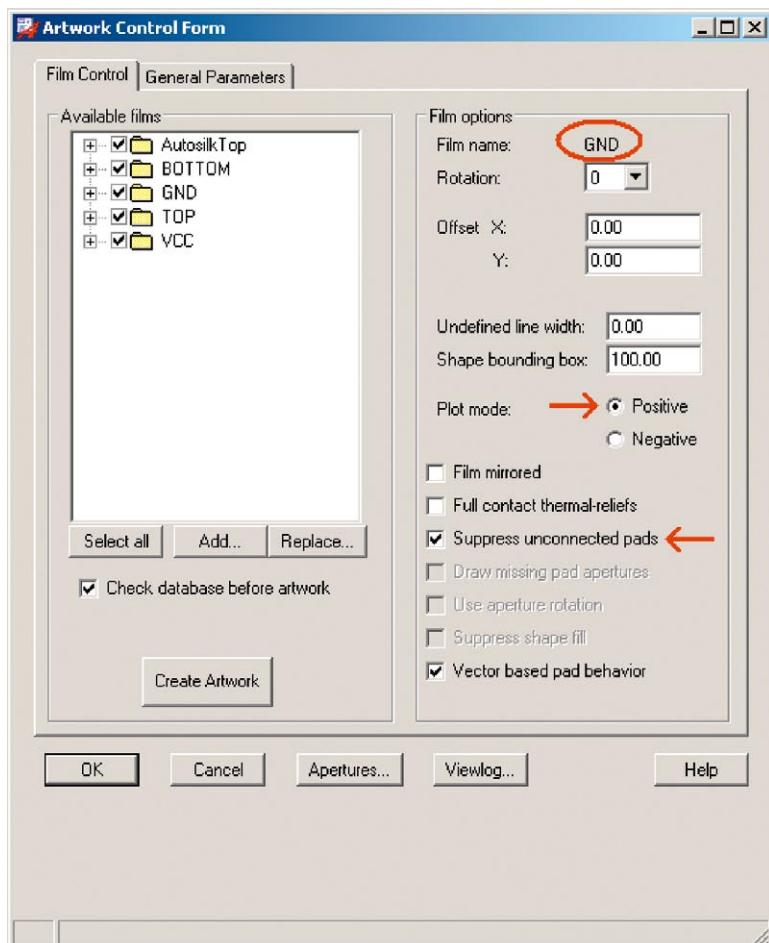

FIGURE 9-192
Artwork production is covered in detail in Chapter 10, but we touch on it here. The inner pads can be removed on positive planes during the artwork production, provided that three conditions are met: (1) the Inner layers option needs to be selected as Optional rather than Fixed in the Padstack Designer's Parameters tab (see Figure 9-187), (2) the Suppress unconnected pads option needs to be checked in the Artwork Control Form, and (3) the film Plot mode: needs to be processed as Positive artwork (also in the Artwork Control Form, as shown in Figure 9-192).